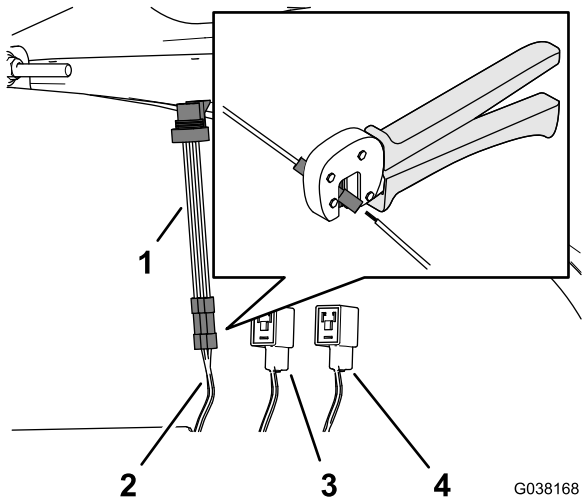

Figure 35
3. Center the crimping tool over the butt-splice connector and wires and crimp the connector securely (Figure 35).